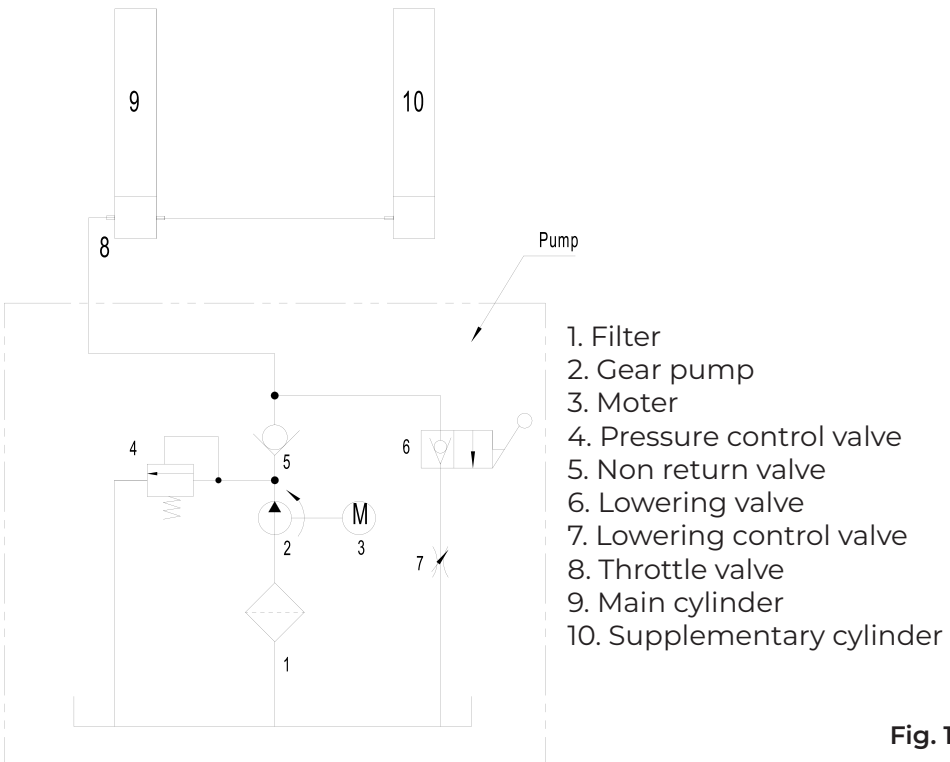

Fig. 18
3. See Fig. 17 and Fig. 18 for schematic representation of hydraulic system.